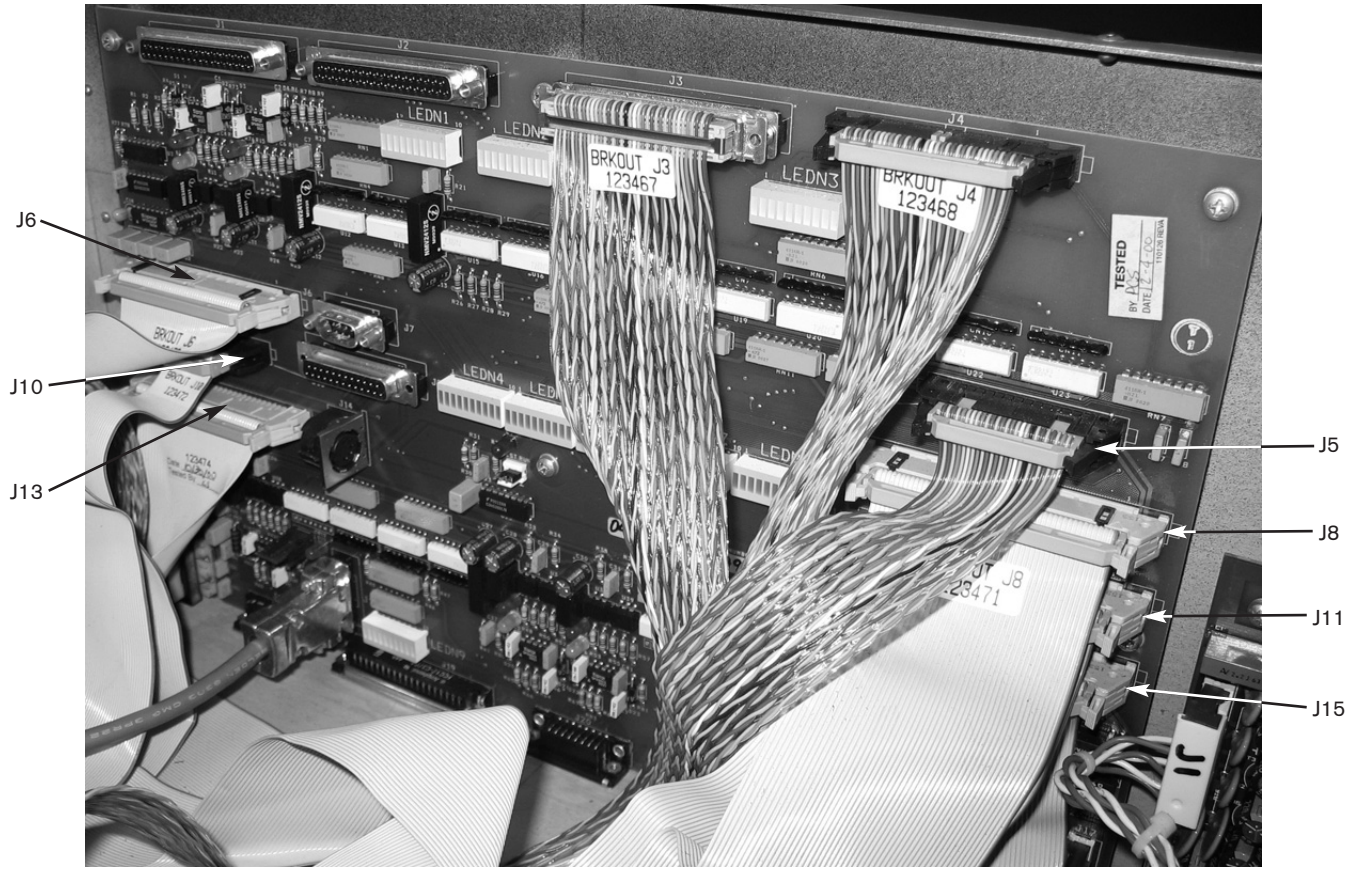
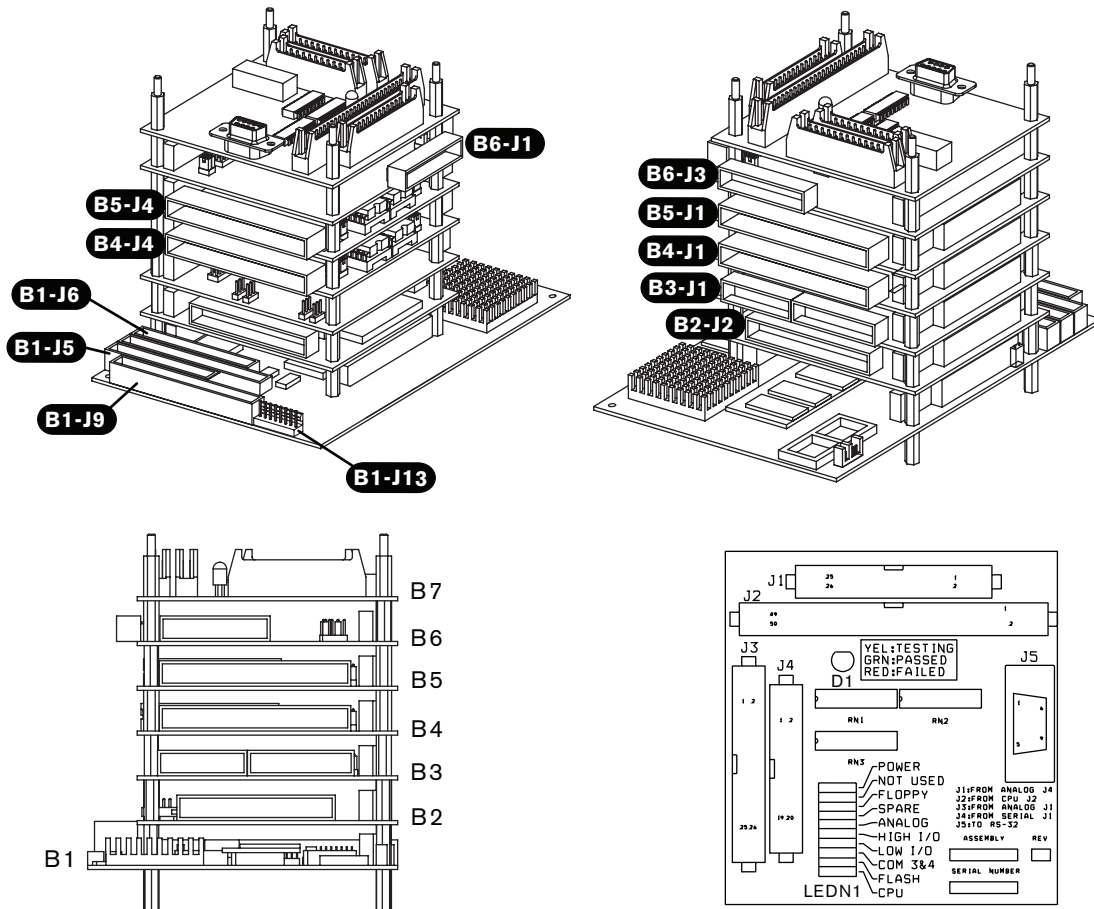

Figure 1 - Breakout board
Figure 4 - 141023 PC-104 stack
2. Remove the cables that lead to the PC-104 stack from the breakout board and the floppy drive in the following order (see figure 1). The power source cable is removed at the PC-104 stack (B1, J25). The connector on the end of the power cable is designated as P50.
4. Reinstall the PC-104 ribbon cable connectors to the breakout board and the floppy drive in the following order (see Figure 1 and Figure 4).